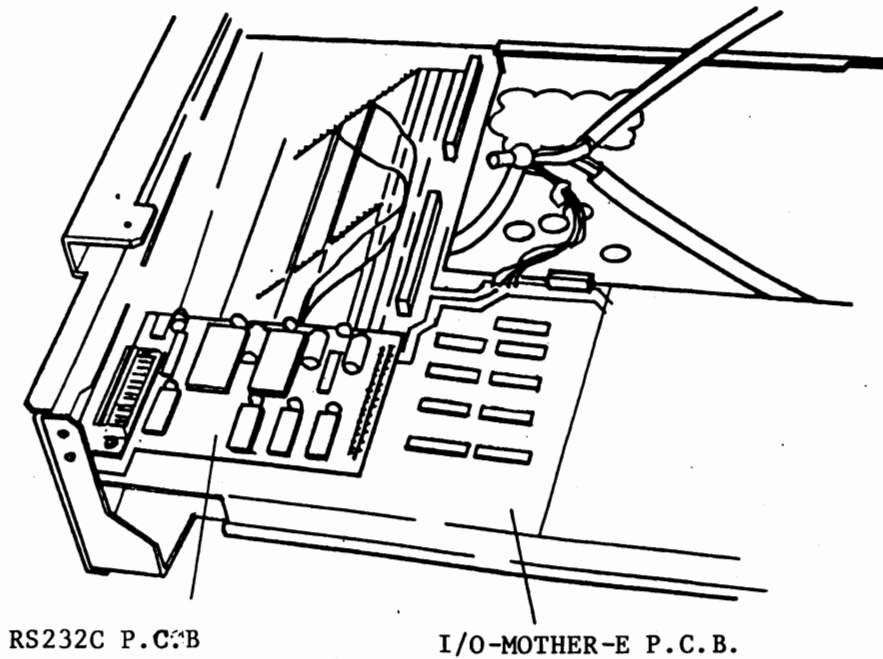

Fig. 4.3.4
- ④ Referring to paragraph 4.3.1 of Chapter 4, install I/O MOTHER mounting plate and I/O-MOTHER-E P.C.B.
- ⑤ As in Fig. 4.3.4, fit RS232C P.C.B to I/O-MOTHER-E P.C.B